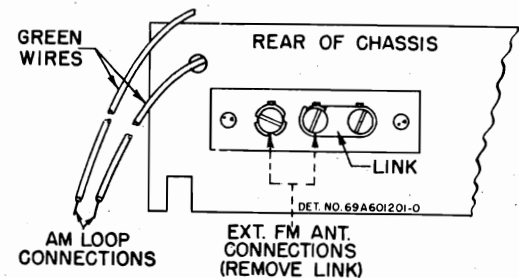

FIGURE 1. ANTENNA CONNECTIONS
No outside antenna or ground is normally required for standard broadcast (AM) reception, as a loop antenna is located inside the cabinet. Antenna connections are shown in Figure 1. In locations where additional pick-up is desired, an external antenna may be connected to the clip marked "EXT BC ANT" on the loop antenna.
An FM antenna, built into the power cord, eliminates the need for an external FM antenna when the receiver is used in normal FM service areas, such as are found in and for a few miles around metropolitan areas. In "fringe" or weak signal areas, improved FM reception can be obtained by using an outside FM antenna. The external antenna should be connected through a 300 ohm twin transmission line to the 1st and 2nd screws on the terminal strip on the chassis, as in Figure 1. The link between the 2nd and 3rd screws should be opened. Orient the antenna to obtain maximum volume of the FM stations.